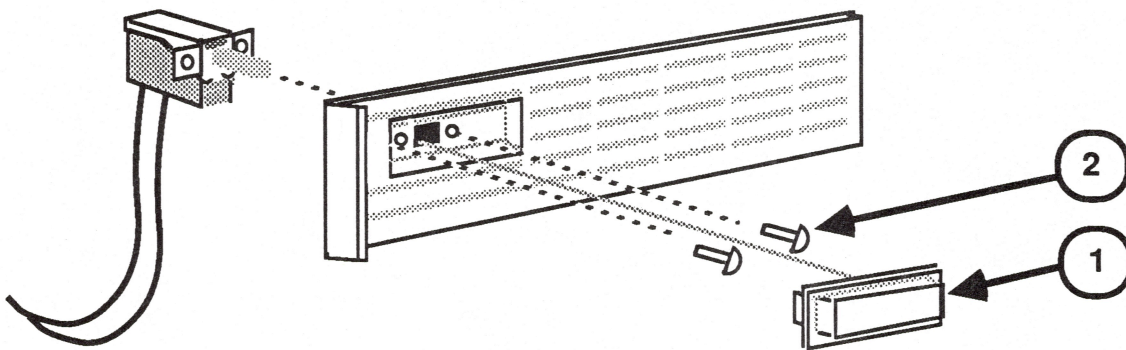

FIGURE 23
6. Pull the switch button (Figure 23, #1) off its shaft.
7. Remove the two screws (Figure 23, #2) which secure the on/off switch to the plastic bracket.
1. Replace the two mounting screws (Figure 23, #2) to secure the on/off switch to its bracket.
2. Snap the switch button (Figure 23, #1) onto the switch shaft.